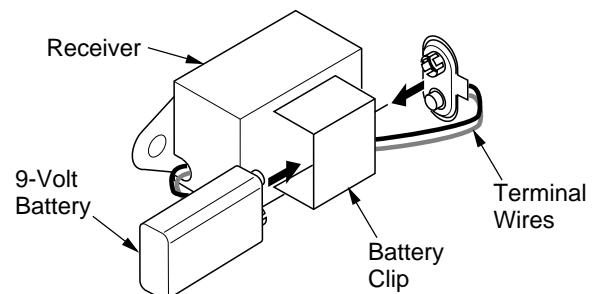

Figure 49 - Installing Battery in Receiver
3. Install 9-volt battery (not included) into receiver battery clip and connect to terminals (see Figure 49).